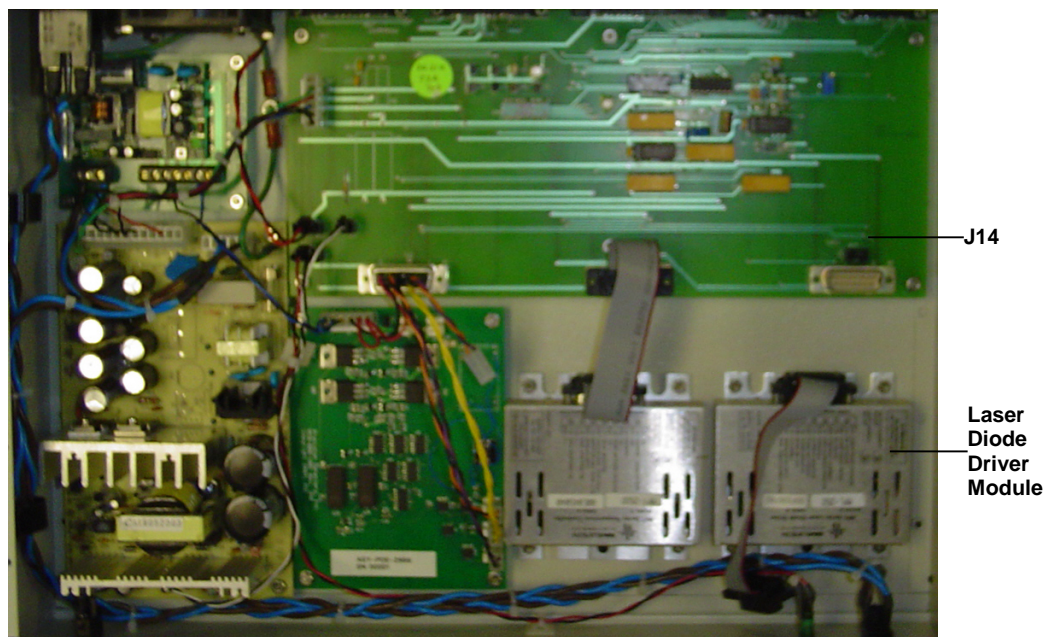

Figure 3-1: Electronics Module Printed Circuit Board
- b) Check that the jumper on J14 connects pins 2 and 3 (Figure 3-1).